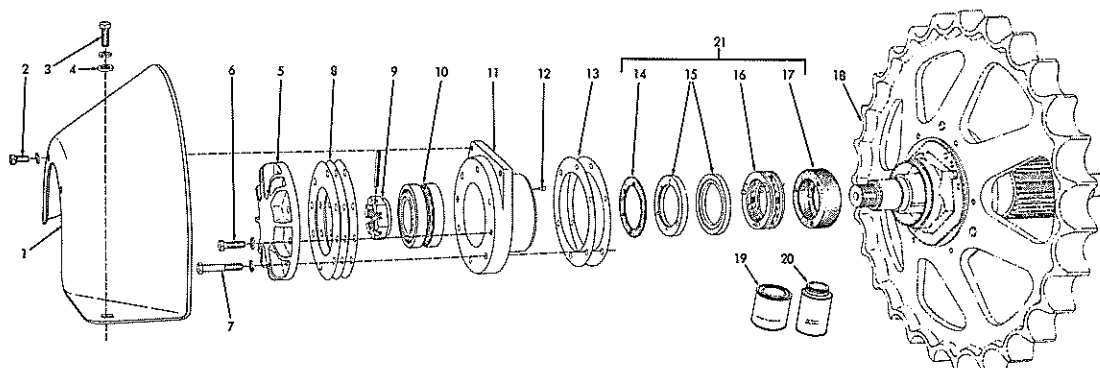
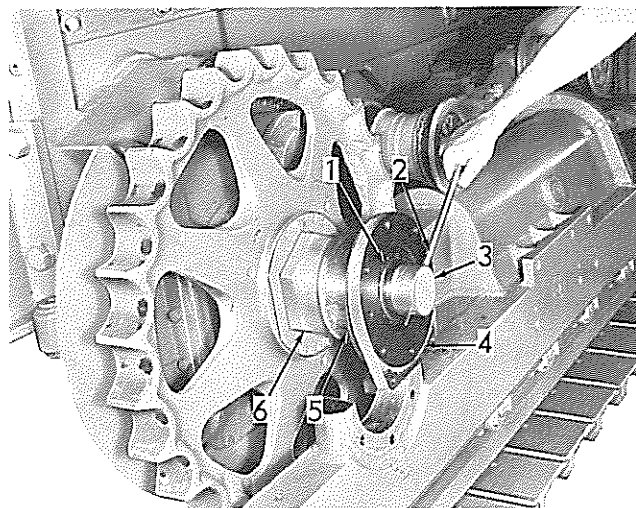

Fig. 20 Sprocket Shaft Outboard Bearing and Seal Details
Fig. 21 Installing Sprocket Shaft Outboard Bearing (T-21614)
- b. Install boot, Fig. 20 (17) on follower assembly (16). Hold each lip of seal boot outward; cement inside of lips and sides of follower assembly. Press boot lips back in place against follower assembly.
- d. Cement other side of seal boot and flat side of a seal ring, Fig. 20 (15). Immediately place seal ring on seal boot and follower assembly, inserting ends of follower pins into corresponding holes in outer seal ring.
- g. Cement one side of seal ring gasket Fig. 20 (14) and machined face in bottom of counterbore in outboard bearing cage (11); immediately place gasket in position on pins in bearing cage. Cement other side of seal ring gasket (14) and flat side of other seal ring (15);
1. Place original amount of bearing cage shims Fig. 20 (13) in position on outboard bearing cage. With outer seal assembly (21) and outboard bearing (10) in place in outboard bearing cage, use outboard bearing installing adapter shown in Fig. 21 to press bearing and bearing cage on shaft far enough to allow 1/4" to 3/8" clearance between outer seal rings. Remove installing tools. Lubricate outboard bearings with clean oil.
2. Install sprocket shaft outboard bearing cover, Fig. 20 (5) with original amount of outboard bearing adjustment shims (8); tighten attaching capscrews securely.